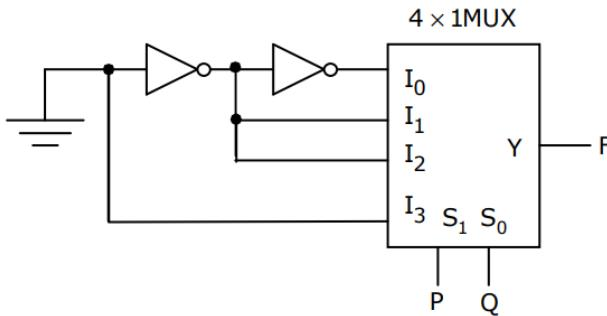

Fig. 3.8
19. Find the logic function implemented by the circuit given below in Fig. 3.8.